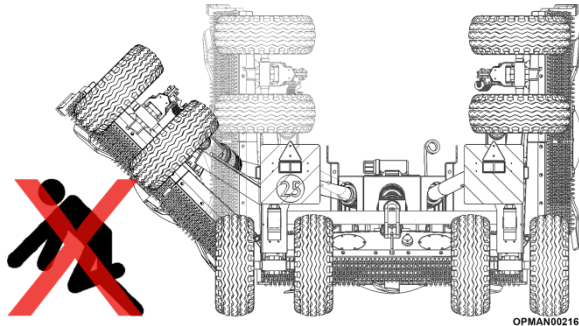

Figure 5.64
5.6.3.1 Clear the area of all personnel before lowering the wings; see Figure 5.64.